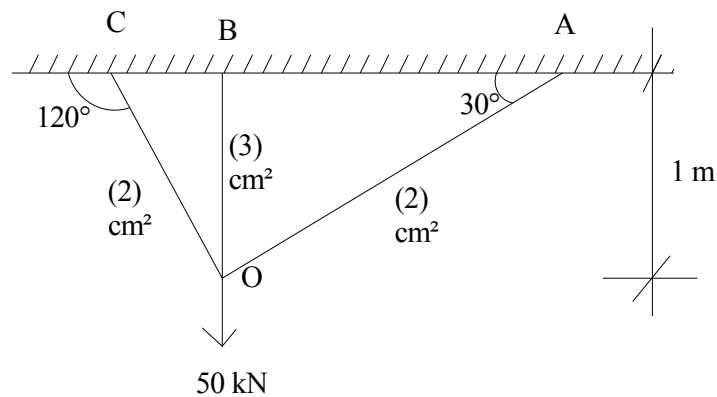

Fig.1
4. Determine the forces in the members of the truss shown in Fig.1 by matrix stiffness method. Take $E = 200 \text{ GPa}$.